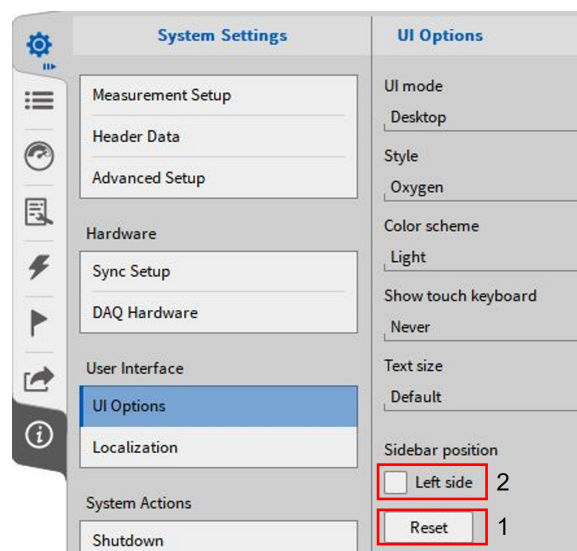

Fig. 3.20: Sidebar position reset
- The user may find it difficult to place the menus back in the default order once a change has been made. To reset the position of your menus, head into *System Settings > UI Options* and select the *Reset* button found under the *Sidebar position* section (see ① in Fig. 3.20).
- The user can also swap the right and the left sidebar. To do so, head again into *System Settings > UI Options* and select *Left side* under the *Sidebar position* (see ② in Fig. 3.20).